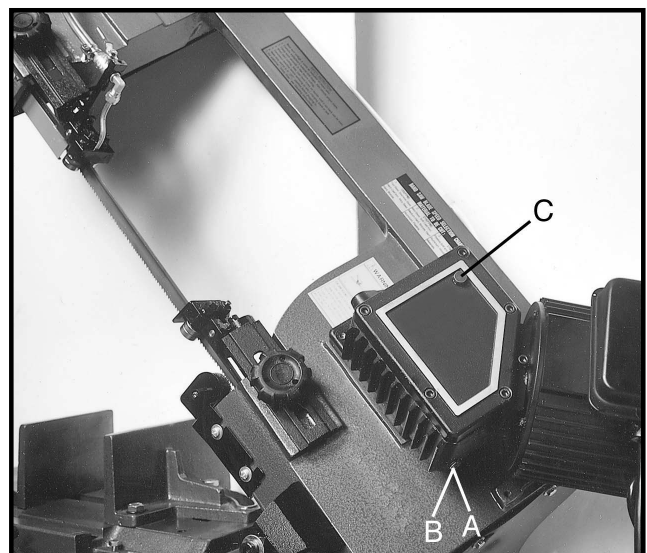

Fig. 19
3. Release the drain hold (A, Fig. 19) to draw off gear oil by loosening the Hex socket screw (B).
4. Replace the screw (B) after oil completely flows off.
6. Fill Gear box with approximately 0.3 liter of gear oil through the hole of the vent screw. (C).